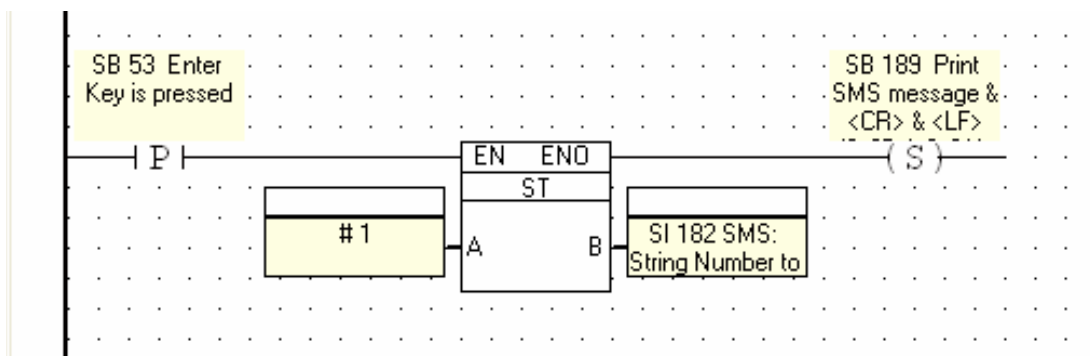

Figure 10: Buttons and objects configured to send the SMS string when the enter key is pressed.
6) Next return to the main ladder program by clicking on ‘Ladder’ in the Project Navigation tree in the ‘Program’ folder. Insert the objects shown in Figure 10 and assign the proper variables, integers and system integers.